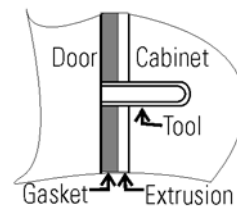
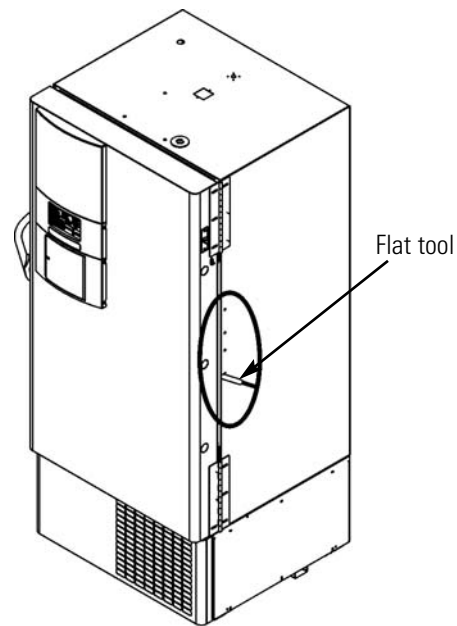

Figure 4-4. Hinge side
Figure 4-3. Insert tool
2. On the HINGED side of freezer (Figure 4-3), slide included pliable tool (P/N 402058), or a non-metallic flat object such as a ruler, tongue depressor or plastic putty knife, carefully between the door gasket and door until only the end of the tool handle is showing (Figure 4-4).